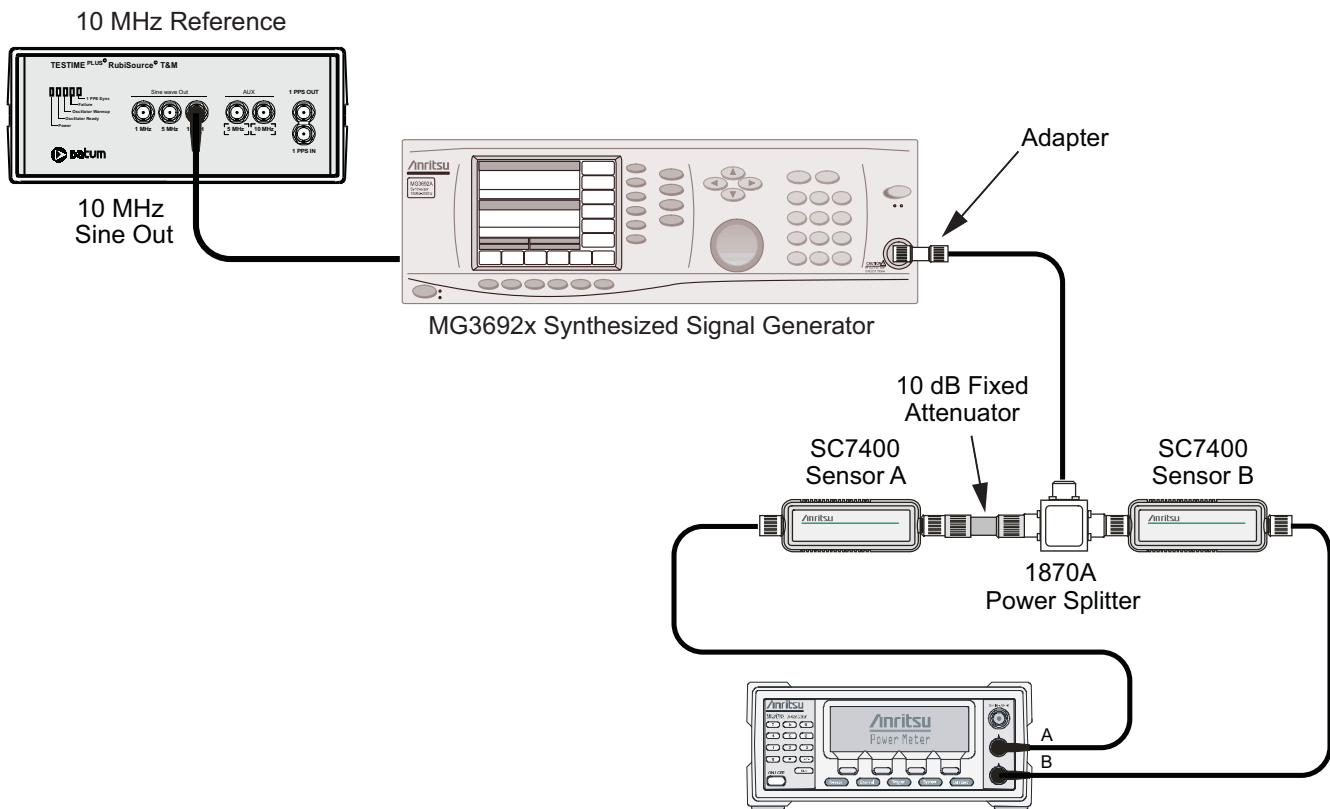

Figure 3-1. Amplitude Accuracy Pretest Setup
6. Install the 10 dB Fixed Attenuator to the other Power Splitter output and then connect Sensor A to the end of the attenuator as shown in Figure 3-1.
6. Install the 10 dB Fixed Attenuator to the other Power Splitter output and then connect **Sensor A** to the end of the attenuator as shown in Figure 3-1 on page 3-12.